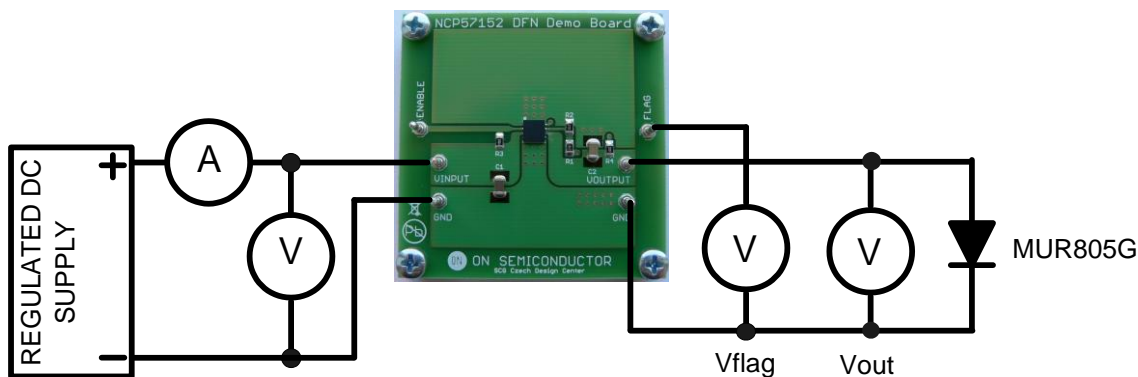

Figure 2: FLAG Voltage Test Setup
- 2.1 Connect the test setup as shown in Figure 2.